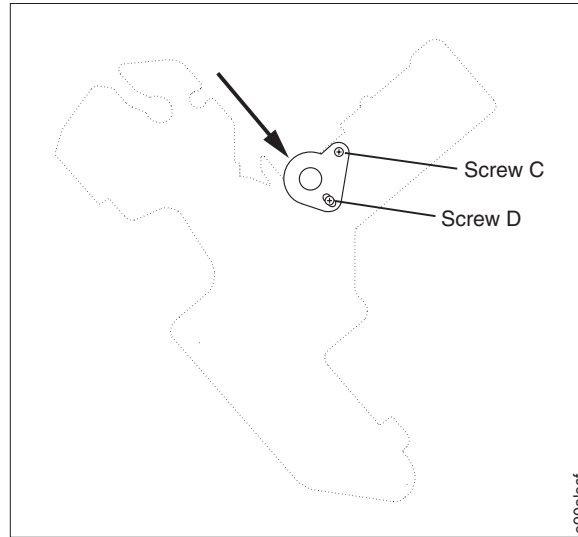

Figure 61. Carriage Left Retainer. Push Retainer in Direction of Arrow
5. Reinstall the left retainer; position it in a way that eliminates any radial looseness of the carriage shaft. To do this, push the retainer lightly toward the front bottom corner of the printer (shown by arrow in Figure 61) while you tighten the screws.